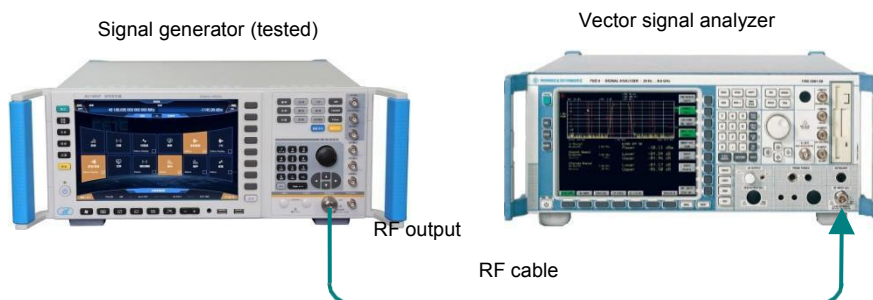

Fig.7.9 EVM and Original Offset Test
Step 1. Power on and reset it, and warm it up for at least 30 minutes. Step 2. Connect the device as shown in Fig.7.9.
The same as the Fig.7.9